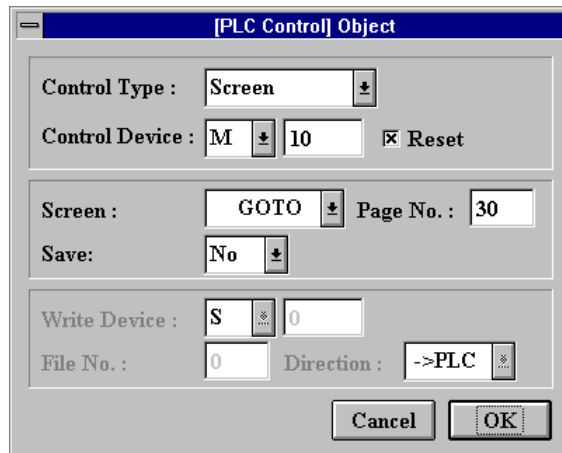

Fig.3-23: PLC Control Object Dialog
- 2) Click on the **Append** icon to create a new PLC control object or click on the **Modify** icon to modify an existing PLC control object. A PLC control object dialog as shown in Fig. 3-23 is popped up. If you click on the **Delete** icon, the current pointed object is deleted.